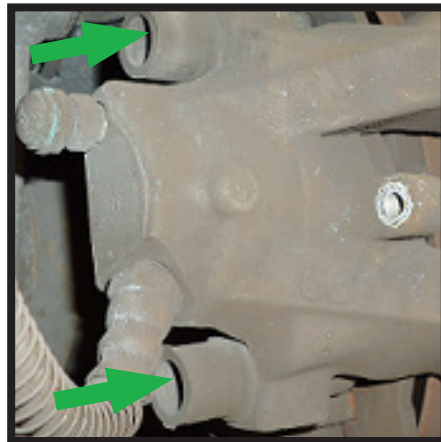

FIGURE 17
6. LOOSEN THE TWO (2) BOLTS ON THE BACKSIDE OF THE CALIPER. (FIGURE 17)